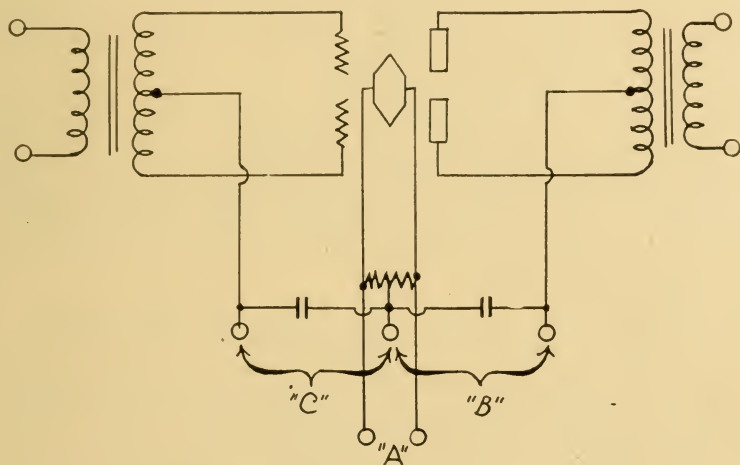

FIG. 134.—Fundamental circuit for push-pull amplification.
(10) Figure 134 represents a very common variation of Figure 128, in which two tubes are used in the same stage of amplification. (11) This arrangement offers some improvement in both volume and quality (giving somewhat more than twice the volume of a single tube) and is especially favored in the later, or power, stages of an amplifier. The grid bias (12) of Figure 134 is shared by both grids, but when speech a. c. is induced in the secondary of the input transformer the upper grid will grow more negative while the lower grid becomes less
(20) Amplifier circuits may be either Class A or Class B. The difference is a matter of grid bias, but the constants of coupling transformers and other apparatus must be adapted to the type of amplification used. Class A amplification is the kind we have been considering up to this point, in which the grid is always negative, and made a little more or a little less negative by the speech a. c., and the milliamperage of the plate current varies or "swings" around a medium level. Circuits designed to operate in Class B commonly have a low grid bias, and when speech a. c. is added the grid "swings" positive during part of the cycle. In some Class B circuits there is no grid bias at all, and the grid is positive over full one-half of the speech current cycle. The plate circuit constants are so adjusted that there is a little flow of plate current while the grid remains at all negative, and a sudden rush of plate current results when it swings neutral or positive. The circuit of Figure 134 is one used for audio-frequency Class B.
It should be mentioned that these variations are combined in all possible ways. The same amplifier may have one stage of Class A and another stage of Class B, just as it may have condenser coupling between tubes at one point, and transformer coupling between another two tubes. The combination in one amplifier of single-tube stages such as Figure 128 with push-pull stages such as Figure 134 is extremely common. But Figure 128 still remains the foundation of all amplifying circuits. No superficial variations alter that fundamental fact.